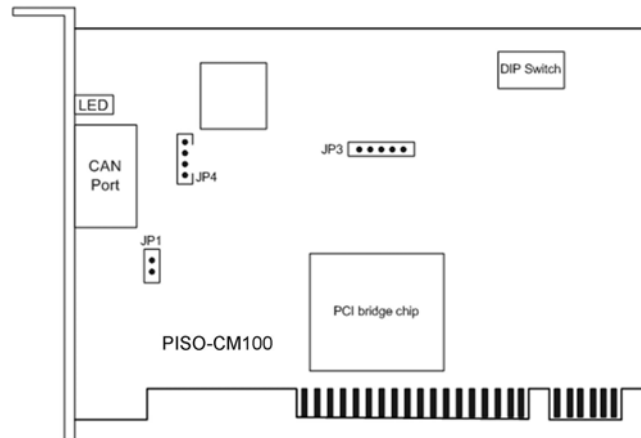

Figure 2.1 PISO-CM100 Board Layout
2. Configure the DIP switch and JP4 of the PISO-CM100U-D/T for the board No. and the terminal resistance. The more detail information could be found on the figure 2.1 and table 2.1.